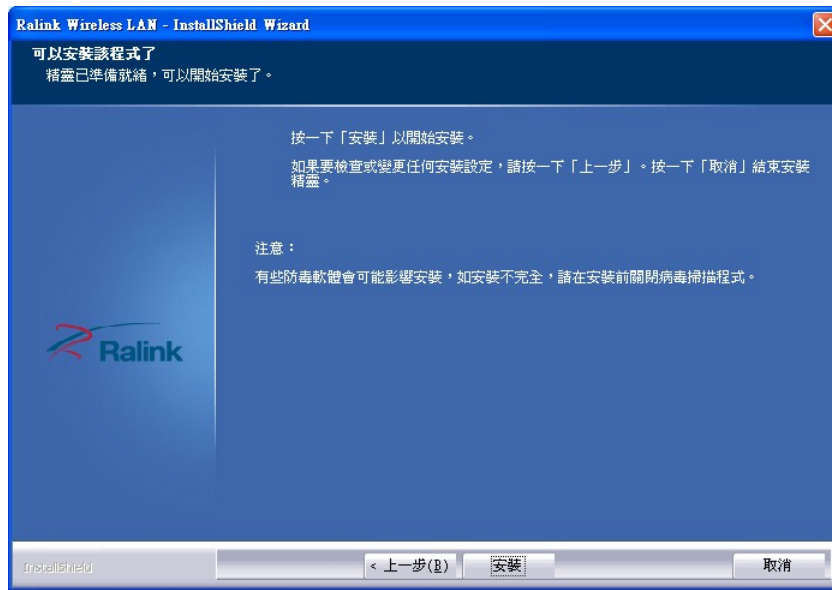

Figure 6-32: Wireless Driver Installation
Step 9: Click **INSTALL** in **Figure 6-32** to start to install the driver.